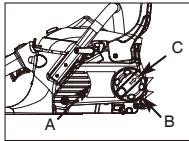

Fig. 3B
3. Loosen button (C) slightly by turning knob counterclockwise and then turn the chain tension ring (B) counter-clockwise to relief chain tension. (Fig.3B)
4. To remove the sprocket cover (A), turn button (B) counter-clockwise. (Fig.3B)